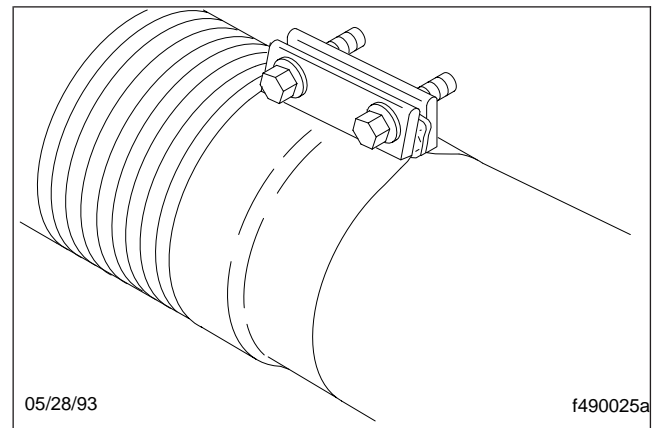
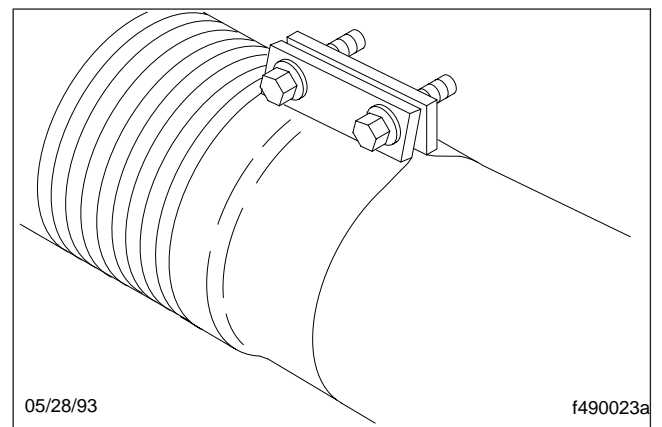
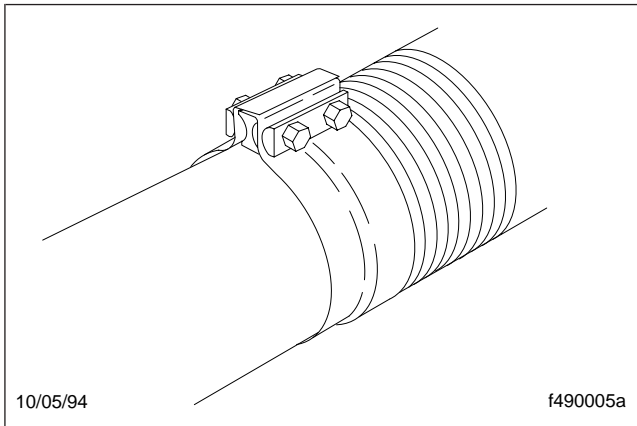

Fig. 2, Donaldson Seal Clamp Wide-Band Exhaust Clamp
Fig. 3, Riker Tru-Seal Wide-Band Exhaust Clamp
Fig. 4, Torca Torctite Wide-Band Exhaust Clamp
7. Check for leakage at all wide-band exhaust clamps. See **Fig. 2**, **Fig. 3**, or **Fig. 4**.